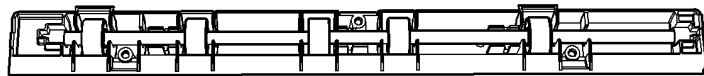

Figure 2 Transparent nip roll housing
3. Turn over the nip assembly and remove two screws to release the transparent nip roll housing, Figure 2.